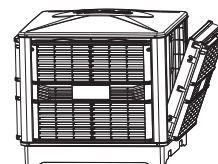
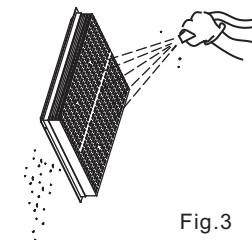

Fig.1
Fig.3
1. Screw off the bolts on the top of cooling pad set, pull upwards and then outwards to take out the cooling pad, rinse it with water. Do not brush or rinse the cooling pad with high pressure water in case of any damage. (As Fig.1 and Fig.3)